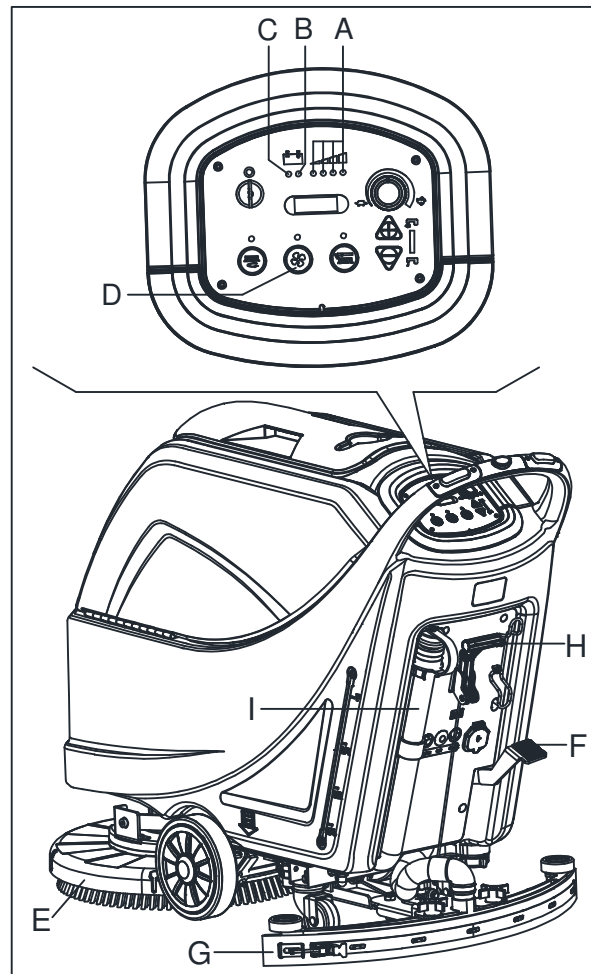

Figure 10
Until the green warning light (A, Figure10) stays on, the batteries allow the machine to work normally. When the green warning light (A) turns off, and the yellow warning light (B) turns on, it is advisable to charge the batteries, because the remaining charge will last for a few minutes (depending on battery characteristics and work to be performed). When the red warning light (C) turns on, batteries are fully discharged. After a few seconds, the brush/pad-holder is automatically tuned off, while the (only for machine with traction) drive system stay on, to finish drying the floor and drive the machine to the appointed recharging area.
If the vacuum system turns off accidentally (for example, when the float is activated because of a sudden machine movement), to resume the operation: turn off the vacuum system by pressing the switch (D, Figure 10), then open the cover (C, Figure 11) and check that the float inside the grid (A) has gone down to the water level. Then close the cover (C) and turn on the vacuum system by pressing the switch (D, Figure 10).
2. Lift the brush/pad-holder deck (E, Figure10) by pressing the pedal (F).
3. Lift the squeegee (G) with the lever (H).